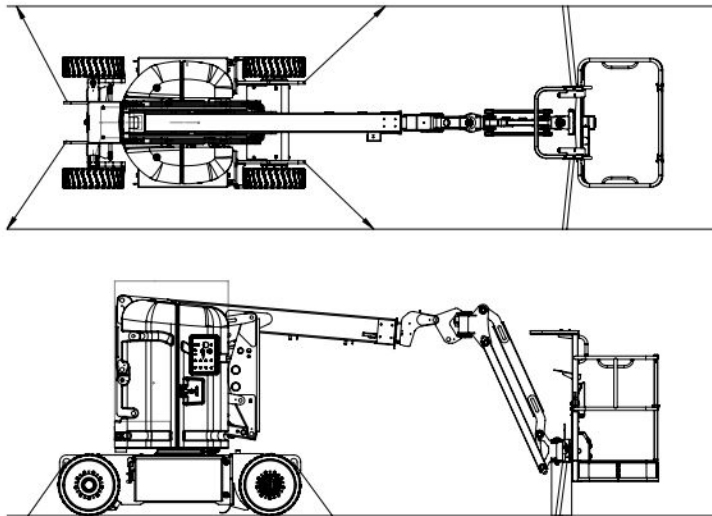

Figure 23 Tie-down points
5. Anchor down MEWP to transport surface using tie-down points (refer to Figure 23).